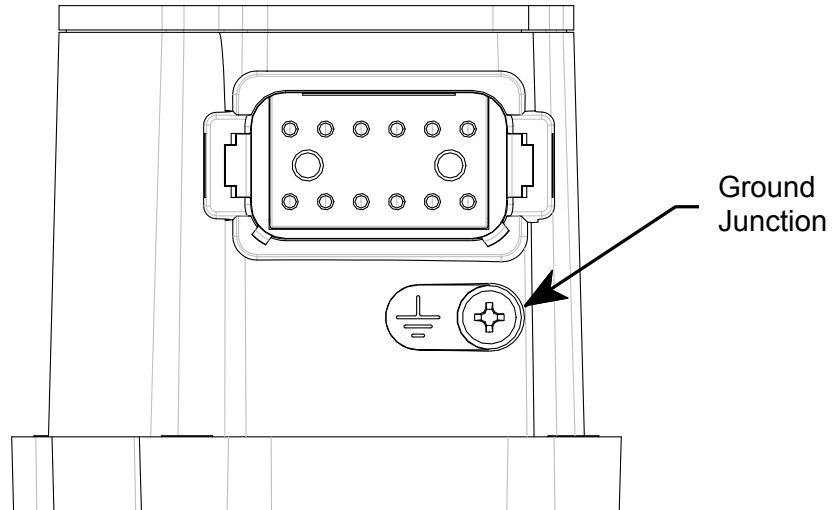

Figure 3-9. Ground Junction Point
**Ground Junction** (see Figure 3-9)